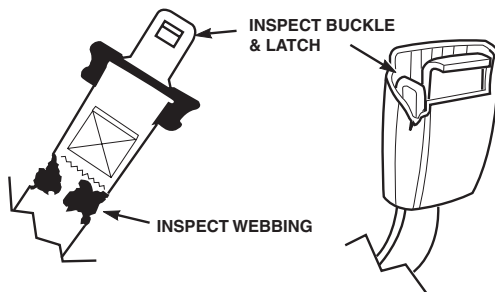

Figure 2-3. Seat Belt Inspection
1. Check the full length of the seat belt webbing for cuts, wear, fraying, dirt and stiffness. See Figure 2-3.
3. Check the buckle and latch for proper operation and determine if the latch plate is excessively worn, deformed, or if the buckle is damaged or cracked. See Figure 2-3.